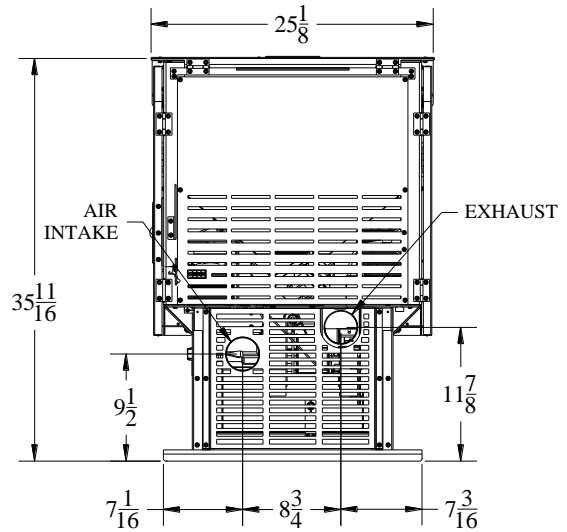
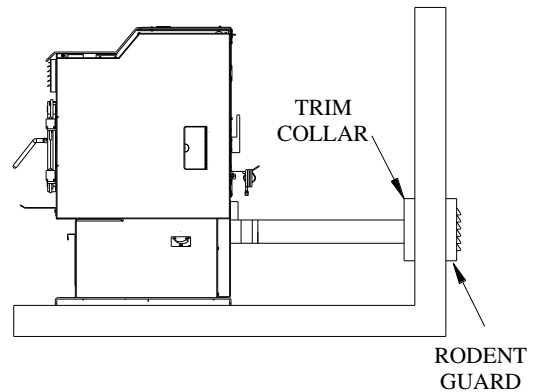

Figure 4
Figure 5
For a mobile home installation the stove must be connected to an outside source of combustion air. A 3" inside diameter metallic pipe, either flexible or rigid, may be attached to the inlet at the stove's rear (refer to figures 4, 5 & 6). A rodent guard (minimum 1/4" wire mesh) must be used at the terminus (refer to figure 5). All connections must be secured and airtight by either using the appropriately sized hose clamp and/or UL-181-AP foil tape.
- A hole in the wall behind the stove.(Figure 5)
2. Determine position of the hole in the wall; directly behind stove exhaust vent (refer to figure 4).